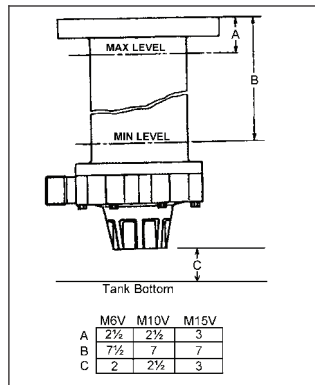

FIG. 1
1. The pump should be located with tank liquid levels according to Fig. 1.
The pump should be located with tank liquid levels according to Fig. 1. except the pump can be located below tank the liquid level. There is no "weep" hole to leak.